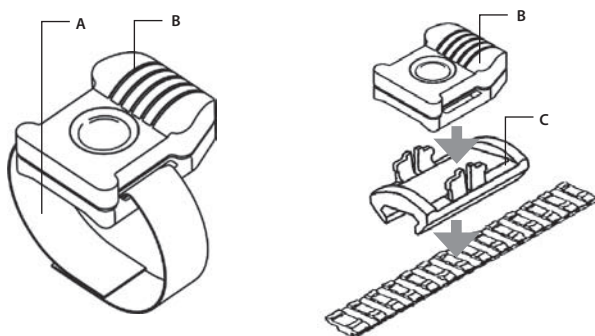

FIGURE 3-12. ADVANCED WIRELESS REMOTE CONTROL
Using Velcro tape (A), fasten the remote control unit (B) (**Figure 3-12**) to the weapon in an easily accessible place (e.g., on the front of the rifle stock) on the side of the CO-MINI's wired cover preferably.